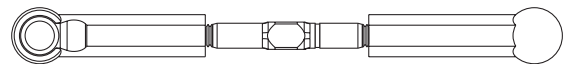

Figure 25B
1. Thread a plastic Rod End (45) onto each end of the 1-5/8" Turnbuckles (46). Tighten both Rod Ends equally until the Rod End is the same length as the one shown in Figure 25B. Make two of these rear Camber Tierod assemblies.
1. Attach one end of a rear Camber Link assembly (Figure 25B) to the Ball Stud (22) in the left rear Hub (66) and the other end to the Ball Stud in the rear Shock Tower (55).